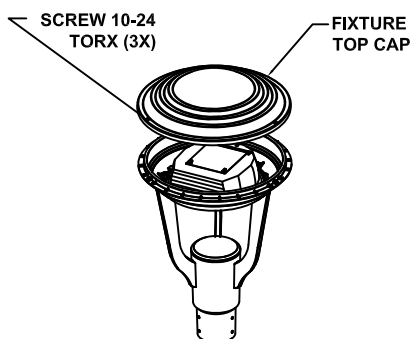

FIG. 6
1. TO RELAMP FIXTURE REMOVE FIXTURE TOP CAP (SEE FIG. 6).